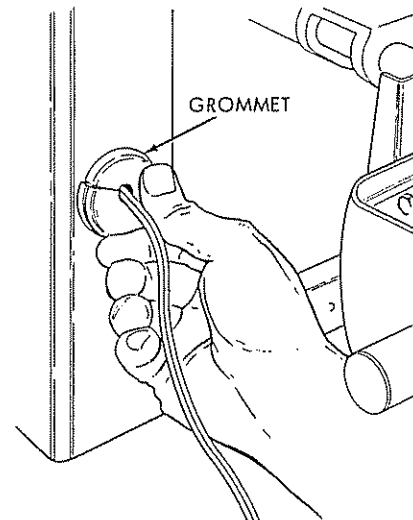

Figure 48
- d. Hold the power cord and slide the grommet (on cord) up to the base and insert it into the hole in base panel. (See figure 48.)